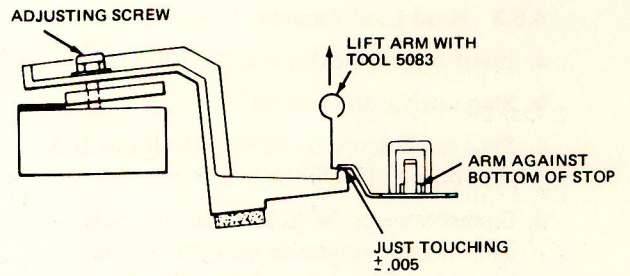

FIGURE 8 HEAD LOAD ACTUATOR ADJUSTMENT
- Seek to track 0 and adjust the right hand downstop nut for $.020'' + .005'' - .000''$ between the bail and the load arm tab. (Figure 8.)
- Seek to track 76 and adjust the left hand downstop nut for $.020'' + .005'' - .000''$ between the bail and the load arm tab. (Figure 8.)
- h. If item "g" is correct, adjust up stop screw (Refer to Figure 8) clockwise until timing is met.